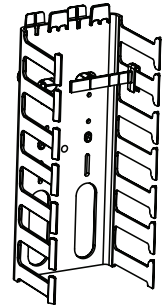

FIGURE 6
1. Slide the Cable Retainer over the channel finger until it snaps into place (Figure 6).